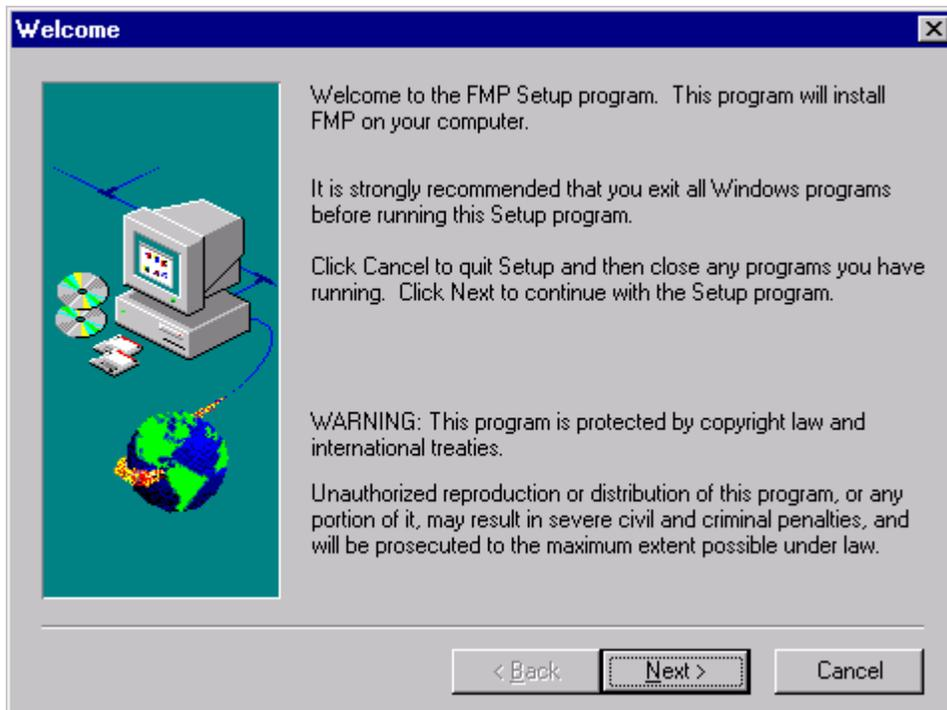

Figure 2-5: Startup Information for FMP
Step 2: Start the installation by running the `setup.exe` program on the installation diskette or CD-ROM. Click `Next` when the startup information, as shown in the FMP example in Figure 2-5, is displayed.